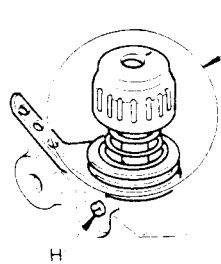

Fig. 15
- If thread winds unevenly on bobbin, loosen screw **H**, Fig. 15, and move bobbin winder tension **I** up or down as required, then tighten screw **H**.